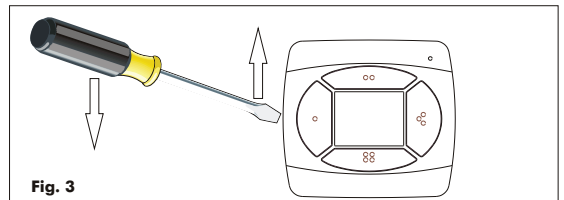

Fig. 3
- 2) Remove the batteries by inserting the point of the screwdriver on the on the semicircle niche present on the perimeter of the hole which contains the batteries (Fig. 3).